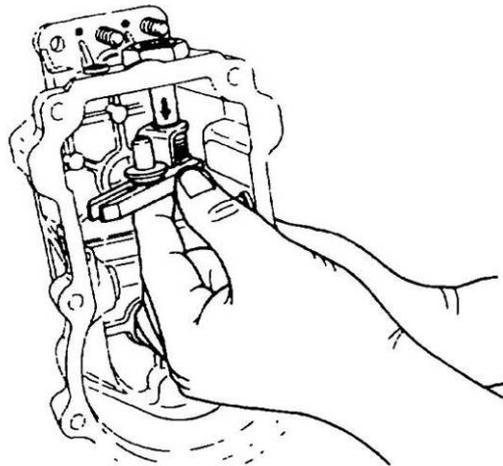

Figure 101 Removal of the Control Lever Shaft and Floating Lever Assembly
- x. Remove the nut and spring washer securing the control lever to the control lever shaft and remove the control lever. Remove the control lever shaft and floating lever assembly from the governor cover (Figure 101).